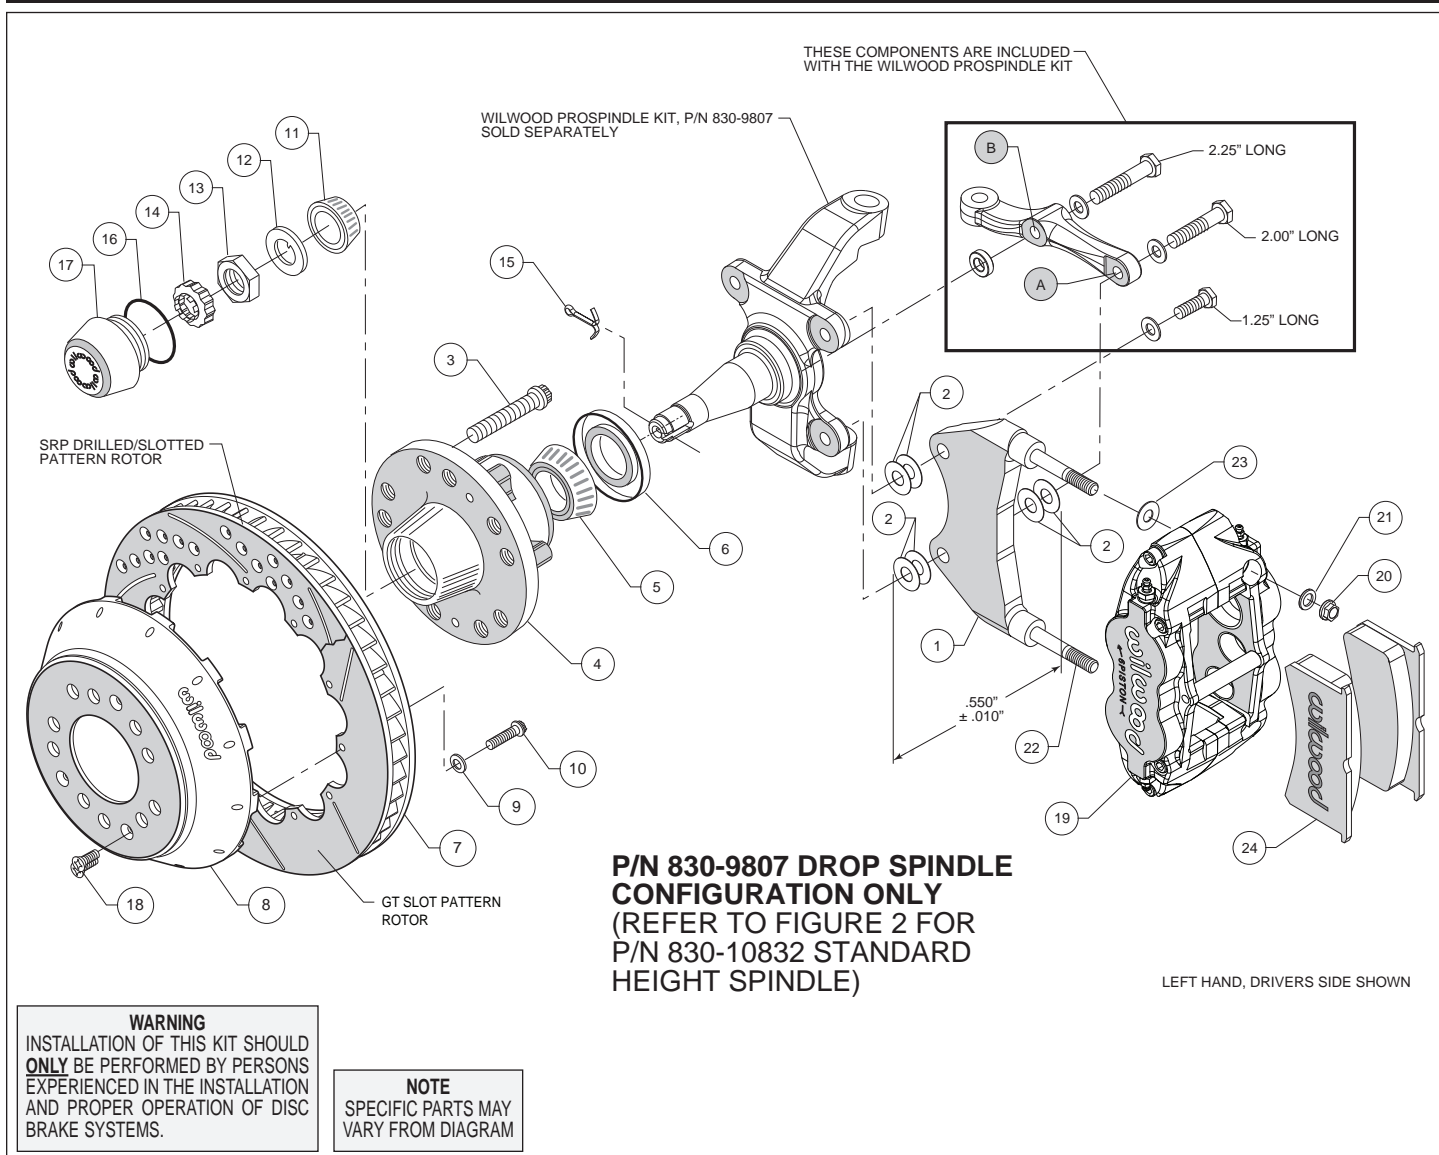
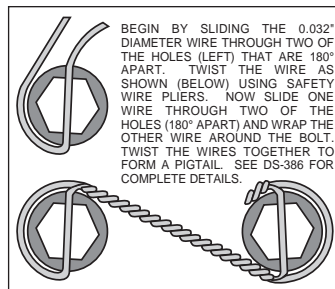

Figure 1. Installation Configuration For Drop Spindle, P/N 830-9807
Figure 4. Safety Wire Diagram
Assembly Instructions (numbers in parenthesis refer to the parts list and Figures 1 or 2 on the preceding pages):
- NOTE:** Each Wilwood ProSpindle kit includes bolts, washers, and a spacer to mount the steering arm and caliper bracket. The various bolts are identified by length in the following instructions and in Figures 1 and 2.
- Orient the bracket as shown in Figure 1 and Photo 1. Install at top spindle hole using 1.25" long bolt and .06" thick washer (from ProSpindle kit), and two .016" thick shims (2) between the bracket and spindle, Figure 1.
- Orient the steering arm, and identify the hole marked 'A', as shown in Figure 1. Install at bottom spindle hole using 2.00" long bolt and .06" thick washer (from ProSpindle kit), two .016" thick shims (2) between the bracket and steering arm, and another two .016" thick shims (2) between the bracket and spindle, Figure 1. The bracket is located between the steering arm and spindle. **NOTE:** The bracket and shim washers must add up to a total thickness of .550" ± .010", Figure 1.
- Finish attaching the steering arm through the hole marked 'B', as shown in Figure 1. Install using 2.25" long bolt, .06" thick washer, and .25" thick spacer (all from ProSpindle kit), Figure 1.
- Screw dust cap (17) into hub (4). Friction created by the o-ring (16) on the dust cap keeps it from unscrewing.
- Orient the rotor (7) and the hat (8) as shown in Figures 1 or 2, and Photo 6. Attach rotor to hat using bolts (10) and washers (9). Using an alternating sequence, apply red *Loctite*® 271 to the threads, and torque to 155 **in-lbs**. For an added measure of security, the bolts may be safety wired using standard 0.032 inch diameter stainless steel safety wire as shown in Figure 4. Refer to Wilwood's data sheet DS-386 (available at www.wilwood.com/Pdf/DataSheets/ds386.pdf) for complete safety wire installation instructions.
- Slide the hat/rotor assembly (8 and 7) onto the hub (4) taking care to align the small countersunk holes in the hat with the small threaded holes in the hub. **NOTE:** The hat must fit flush against the hub face or excessive rotor run out may result. Install three flat head screws (18) through the small holes in the hat (8), and torque to 85 **in-lb**.
- NOTE:** This kit contains distinct right and left hand calipers that must be mounted in a specific direction, as described below. Lubricate the caliper mounting studs (22) with lightweight oil. Initially place one .035" thick shim (24), and spacer (23) on each stud as shown in Figure 1 or 2, and Photo 7. Mount the caliper (19) onto the bracket (1) using lock nuts (20) and washers (21), Figure 1 or 2. Ensure that the caliper is mounted so that the largest pistons are at the rotor exit end of the caliper, in relation to the direction of rotor rotation. Temporarily tighten the lock nuts and view the rotor through the top opening of the caliper. The rotor should be centered in the caliper, Photo 8. If not, proceed as follows:
- For the lower bracket mount bolt, if a shim was added between the bracket and spindle, then a shim must be removed between the steering arm and bracket, such that the total thickness of bracket and shims remain equal to $.550 \pm .010$ ", Figure 1.